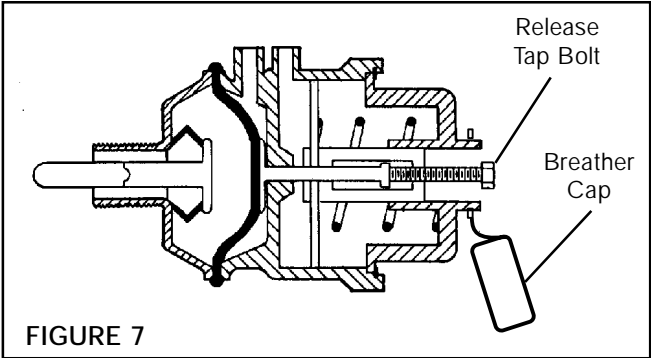

FIGURE 7
- a. Remove Breather Cap (See Fig. 7)
- b. With a deep 9/16" socket wrench, unscrew the Actuator Tap Bolt (See Fig. 7).